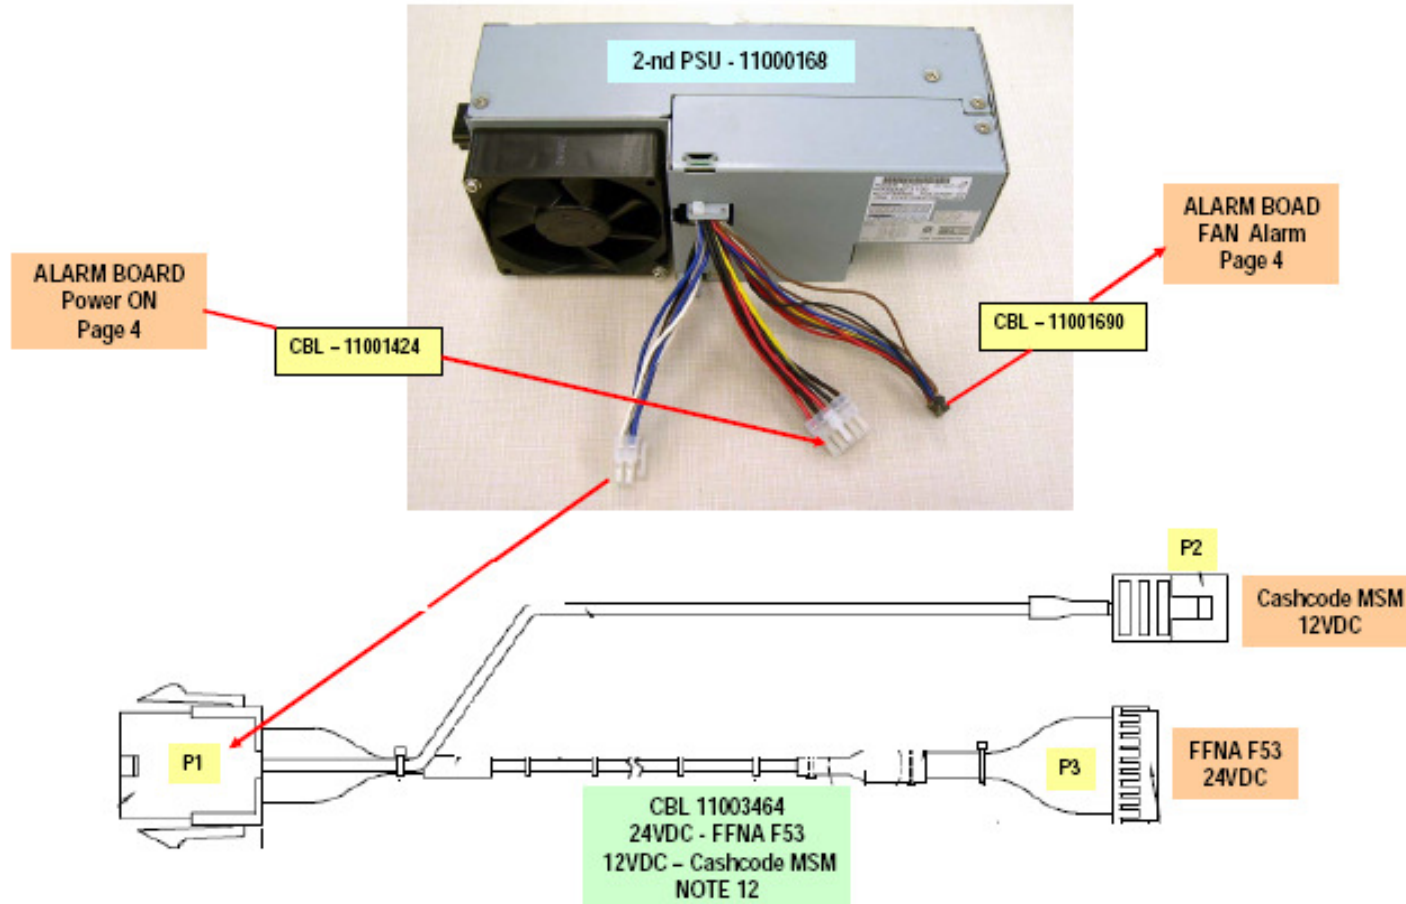

Figure 3. 2-nd PSU (11000168) Interface Detail
8. Refer to Figure 3, Page 5 for details in respect to connections of the 2-nd power supply 11000168, F53 Bill Dispenser, Bill Acceptor MSM, Bill Acceptor MFL.